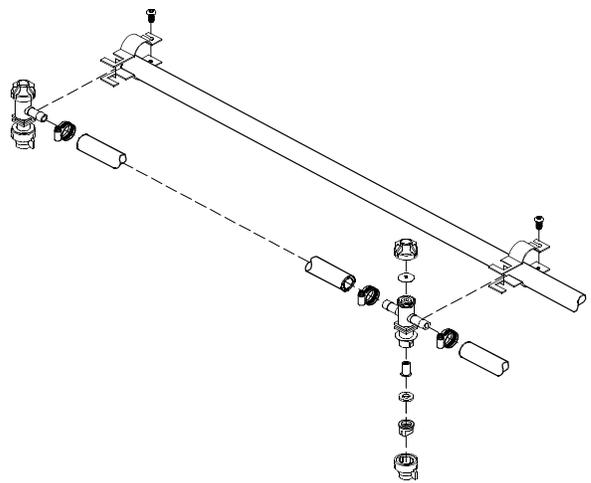

Figure 5: Nozzle Body Mounting
3. Connect the vinyl hose to the nozzle body(s) with an included hose clamp. The spray nozzles, nozzle body caps, and tip strainers are all installed into the nozzle body. See Figure 5 on page 6 for a breakdown of the complete nozzle body.
4. The recommended technique for mounting the nozzle body(s) is on a piece of round or square tubing with a boom clamp. Your applicator kit includes two 1/2" round boom clamps. See the Accessories section on page 16 for ordering different size round or square boom clamps. See Figure 5 on page 6 for a diagram of how the spray nozzle bodies are mounted on tubing.
5. Depending on the size of the application area on the piece of equipment, you will need to use one or two spray nozzles. Begin by installing the nozzle body elbow and test to see if the spray pattern covers the entire application area. If two spray nozzle bodies are needed for complete coverage, install the nozzle body tee first and the nozzle body elbow secondly. See Figure 5 on page 6.